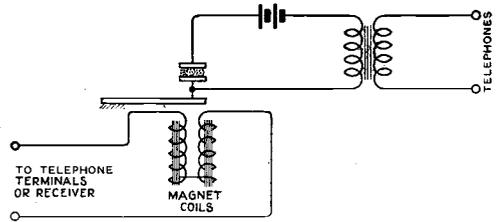

Fig. 4. **“J.H.W.” (Stoke-on-Trent).** Method of connecting a microphone amplifier to a receiver.
of low resistance, so that if high resistance telephones are normally used in the receiving circuit, the coils should be rewound with No. 42 or No. 44 S.S.C. (2) See Fig. 4. The dimensions of the microphone